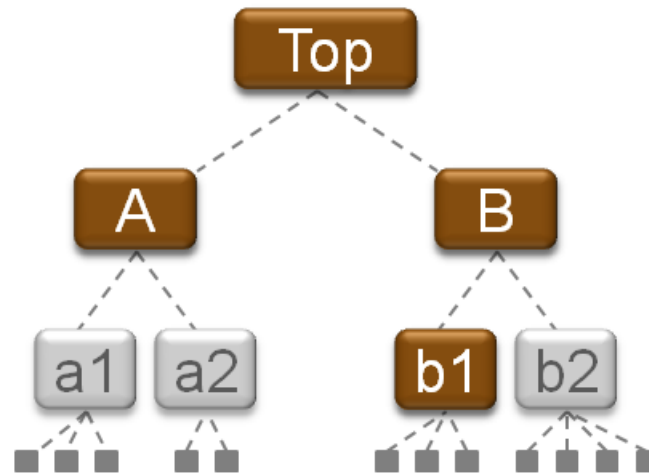

Figure 2: Searching the Design Hierarchy
As an example, Figure 2 shows a hierarchical design where the modules A and B are instantiated at the top-level. Module A includes the a1 and a2 hierarchical instances, and module B includes the b1 and b2 hierarchical instances. Each of a1, a2, b1, and b2 has leaf cells (unisim instances) inside, as indicated in the figure.
The following example is based on Figure 2, page 38 which shows a purely hierarchical netlist.
The `-hierarchical` search is equivalent to manually performing a search at each level of the hierarchy, using the `current_instance` command to set the search scope to a particular hierarchical instance, and return all the objects that match the specified name pattern at that level. The following Tcl code, based on Figure 2, page 38, illustrates this manual process:
**IMPORTANT:** When `-hierarchical` is used with `-regexp`, the specified search string is matched against the full hierarchical name, and `B/. *` will return all cell names that match this pattern. For example, based on Figure 2, `get_cells -hierarchical -regexp B/. *` returns all the cells below the block B. See the Vivado Design Suite Tcl Command Reference Guide (UG835) [\[Ref 1\]](#) for more information on `-regexp`.